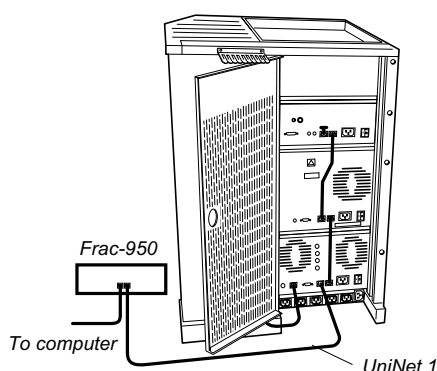

Figure 2-15. Connecting Frac-950 UniNet 1 to an ÄKTExplorer system
- 2 Run a new UniNet 1 cable (included) from the ÄKTAdesign system to one of the **UniNet 1** connectors in Frac-950. The example in Figure 2-15 shows connection to an ÄKTExplorer system.